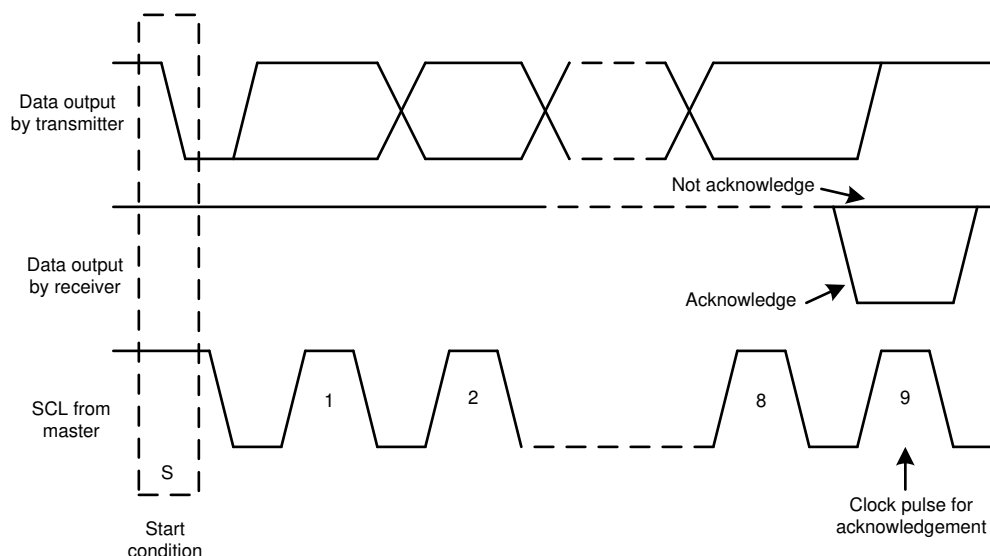
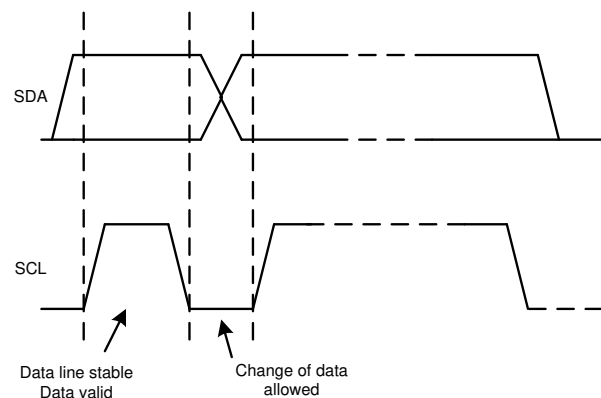

図 8-3. Acknowledge and Not Acknowledge on the I²C Bus
Figure 8-5. Bit Transfer on the I²C Bus
Other than specific timing signals, the I²C interface works with serial bytes. At the end of each byte, a ninth clock cycle generates and detects an acknowledge signal. An acknowledge is when the SDA line is pulled low during the high period of the ninth clock cycle. A not-acknowledge is when the SDA line is left high during the high period of the ninth clock cycle, as shown in 図 8-3.
2. The master then generates the SCL pulses, and transmits the 7-bit address and the read/write direction bit (R/\overline{W}) on the SDA line. During all transmissions, the master makes sure that data are valid. A valid data condition requires the SDA line to be stable during the entire high period of the clock pulse, as shown in Figure 8-5. All devices recognize the address sent by the master and compare the address to the respective internal fixed address. Only the slave device with a matching address generates an acknowledge by pulling the SDA line low during the entire high period of the 9th SCL cycle, as shown in Figure 8-3. When the master detects this acknowledge, the communication link with a slave has been established.